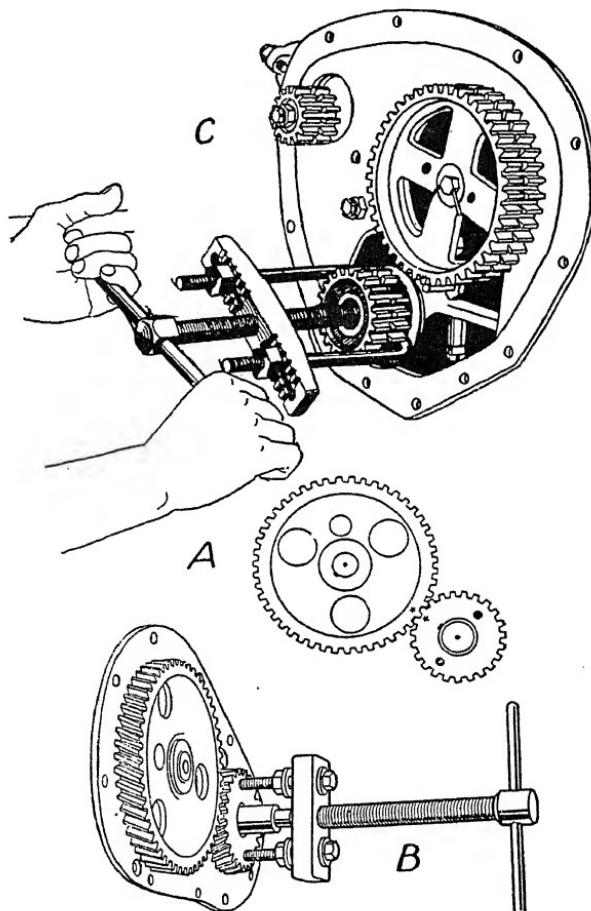

Fig. 16. Timing-Gear Marks and Use of Gear Puller for Pulling Crankshaft Gear
**Checking Timing Gears for Markings for Engine Timing.** Before removing timing gears, the careful mechanic is always certain to inspect the gears or sprockets and chain, as the case may be, for the manufacturers' identification marks. The common method of marking gears is by a center punch mark on the rim of each gear, shown at A in Fig. 16. These marks are so placed that when the gears are meshed with marks opposite each other, the engine will be in time. As a general rule it is impossible to assemble a cam gear or the crank gear in more than one position, so the automobile mechanic need only follow the manufacturer's marks in installing the new gears.
Pullers for removing gears pressed on the shaft are of several types. A common one is shown at *B* in Fig. 16. The crankshaft gear has two holes tapped for  $\frac{3}{8}$ -inch U.S.S. threads. Studs of gear puller are screwed into these holes and locked to cross member of puller. The central member or screw of puller is then set in end of crankshaft, pulling gear from end of shaft. Frequently the engine gear is not drilled and tapped for these two bolts. In such a situation ends of puller bolts are bent at right angles, *C*, Fig. 16, and hooked around back of the back portion of engine gear; otherwise the operation is the same.